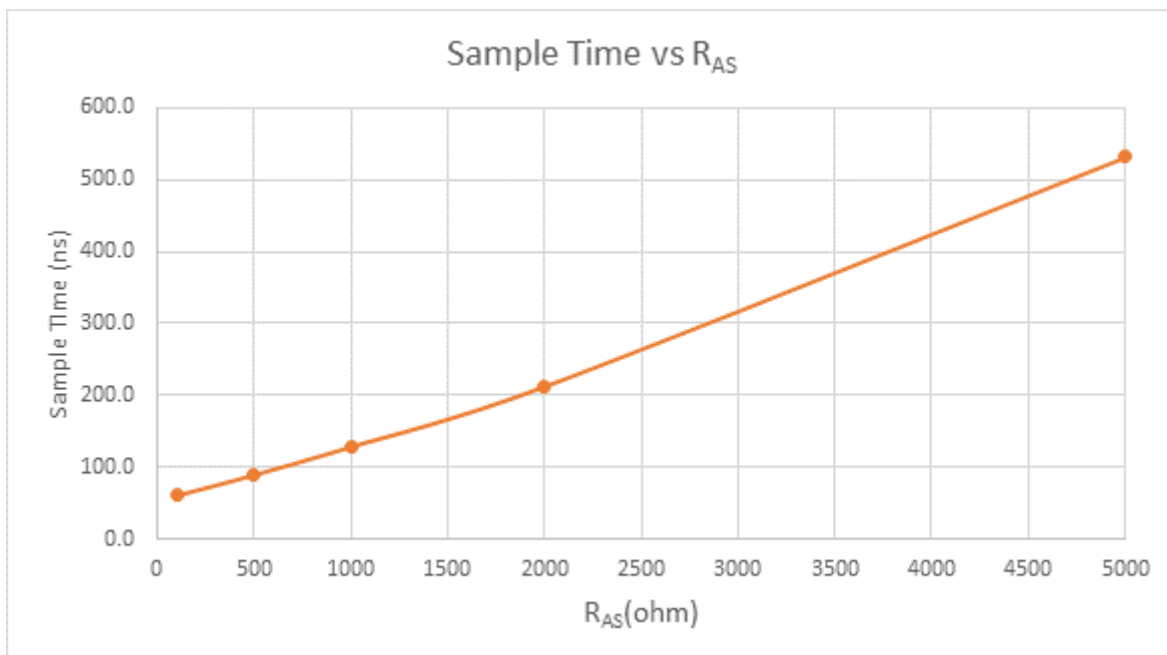

Figure 33. Sample time VS. RAS
4 See Figure 33, "Sample time VS. RAS".
- 4 See Figure 33, "Sample time VS. RAS".